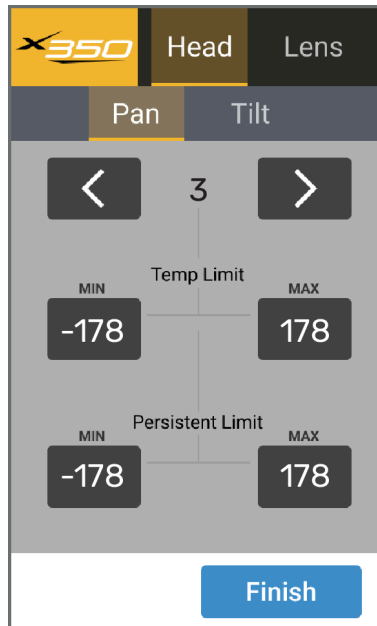

Figure 4.25 — Pan Axis Controls
2. Controls for the **Pan** axis appear (Figure 4.25).